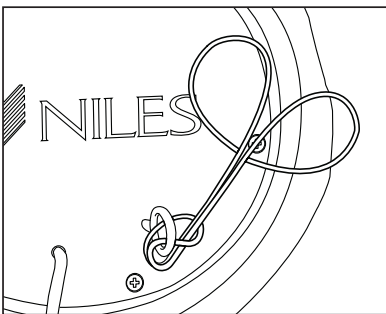

Figure 10.
4. Pull the ends of the security cable with the loops as tight as you can until the knot around the security eyelet is tightened as shown in **Figure 10**.